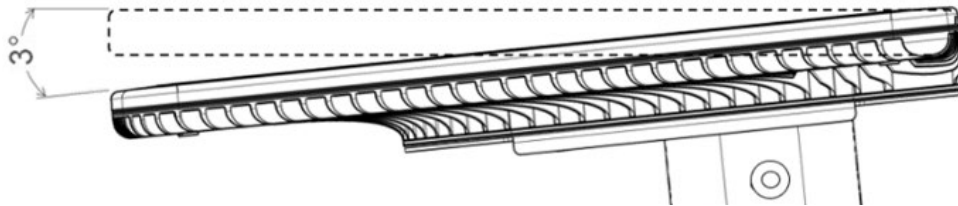

Figure 18: Tilting the ODU forward to 3-degrees
- The stanchion is adjustable and allows for pivoting around the lower bolts. These bolts were installed first in step 4 when connecting to the mount and left loose enough to allow pivoting. The curved slot in the center of the stanchion on either side controls the angle of the stanchion, which can be locked in place using the proper bolts. The ODU requires 3-degrees of forward tilt where forward is the direction away from the bridge along the short side of the panels (shown in Figure 18). An inclinometer must be used to ensure the ODU is at the desired 3-degree forward tilt, after which all four bolts may be tightened to their required torque values.